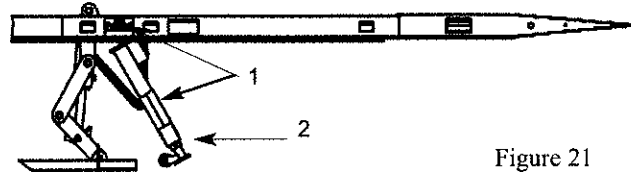

Figure 21
4. Press 'up' button on remote control switch to lift machine until there is no weight on stiff legs. Then swing stiff legs forward until they are at 30 degree angle from their vertical position. (See Figure 21.)